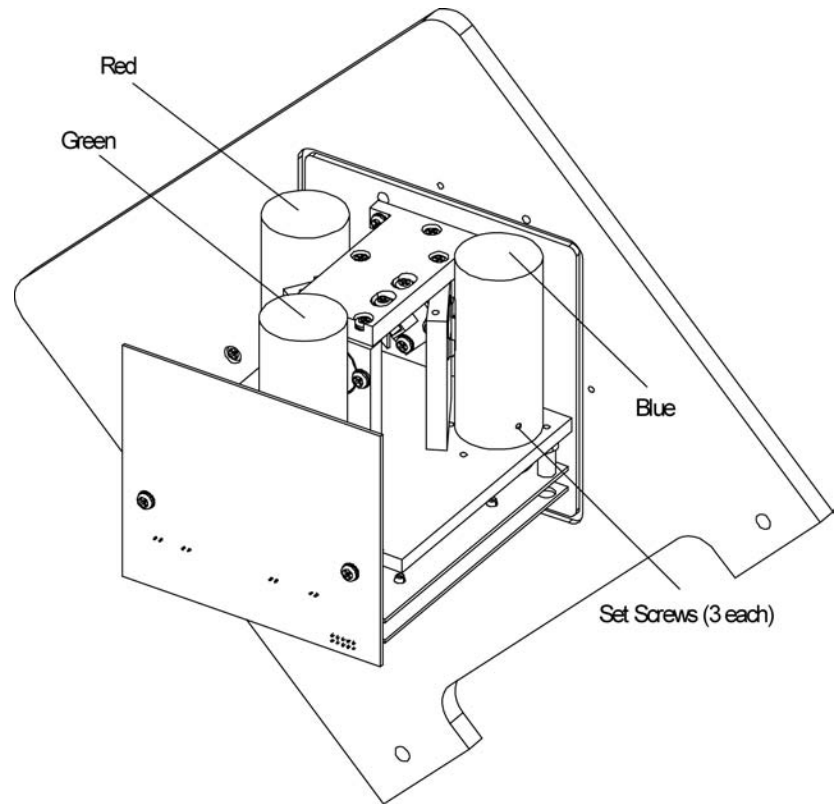

Figure 8-44
3. To access the lens, you must remove the red PMT tube with its magnetic shield (Figure 8-44). To remove the tube, support the sensor frame with one hand and use your other hand to *gently* rock the shield from side to side as you pull the shield and tube from its socket.